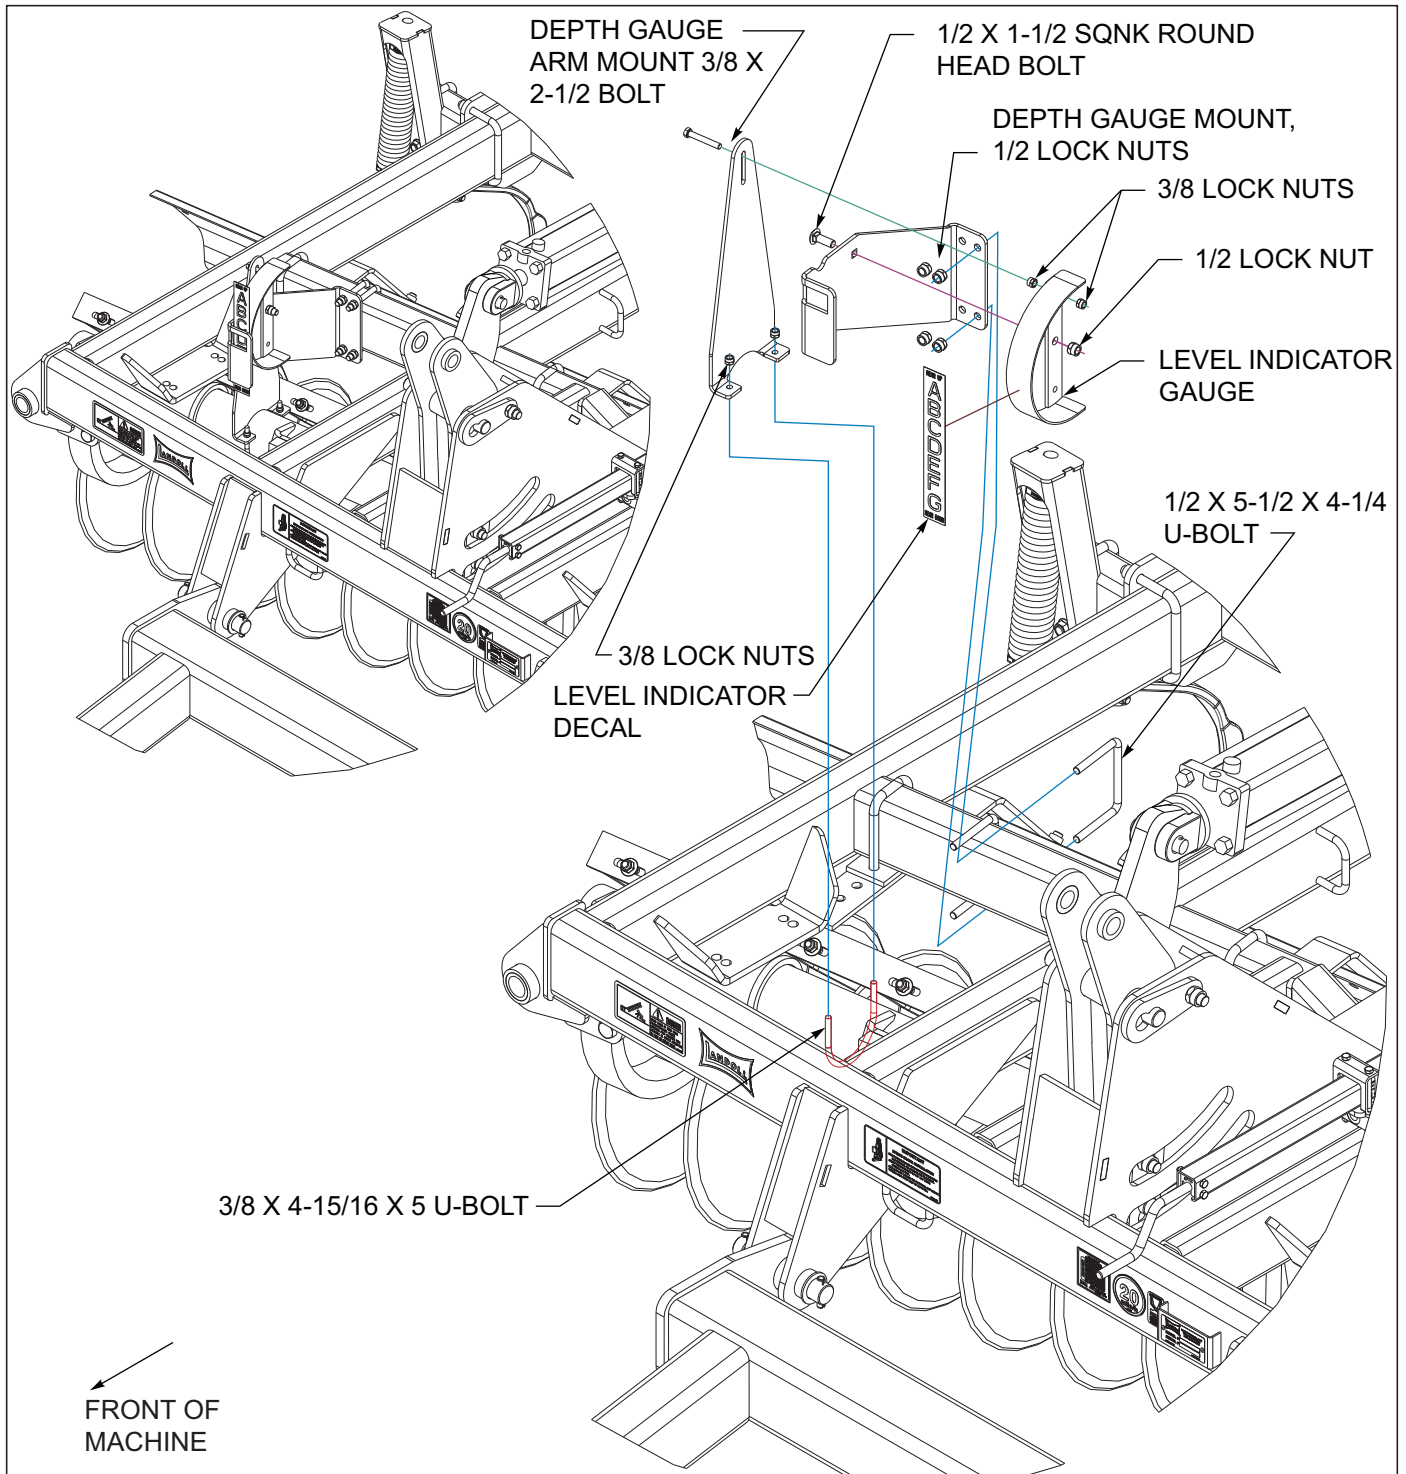
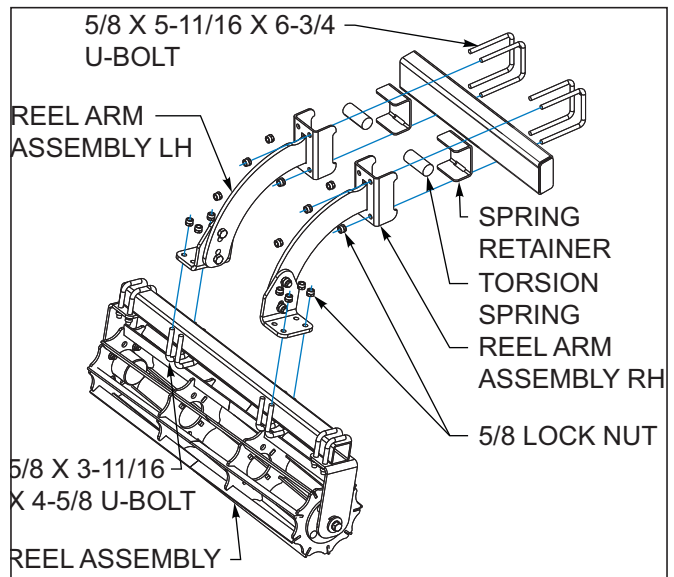
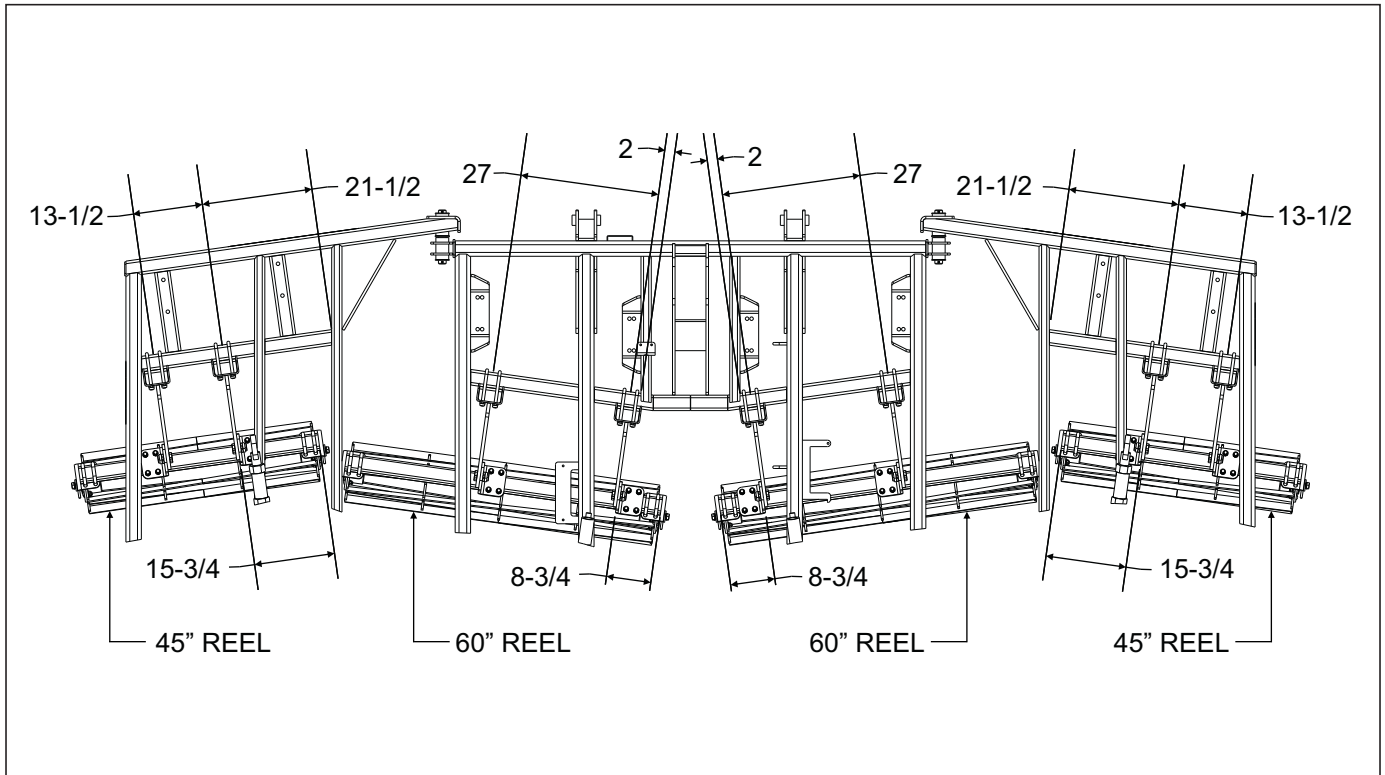

Figure 3-16: Depth Gauge Assembly
Figure 3-18: Disc Gang Reel Arm Assembly
Figure 3-19: Disc Gang Reel Installation - 19'
5. **See Figures 3-19** through **2-13** for placement. **See Figure 3-16** for assembly.
6. Attach the depth gauge mount to center frame with 1/2 x 5-1/2 x 4-1/4 u-bolts and 1/2 lock nuts **See Figures 3-16**. Attach the depth gauge arm mount to disc gang lift using 3/8 x 4-15/16 x 5 u-bolt and 3/8 lock nuts. Attach the level indicator gauge to depth gauge mount with 1/2 x 1-1/2 sqnk round head bolt and 1/2 lock nut, do not over-tighten as the level indicator gauge must pivot freely. Install the 3/8 x
8. Optional Disc Gang Reel Arm Assembly – **See Figure 3-18** Refer to the Disc Gang Reel Layout drawings for proper placement **See Figures 3-19 through 3-25**. Attach 203072, reel arm assembly RH or 203073 reel arm assembly LH to frame. Position torsion spring in upper corner slot of spring retainer, secure with 181363, 5/8 x 5-11/16 x 6-3/4 u-bolts and 5/8 lock nuts. Attach reel assembly to 203072 reel arm assembly RH and 203073, reel arm assembly LH. Secure with 5/8 x 3-11/16 x 4-5/8 u-bolts and 5/8 lock nuts. When all components are in positions shown **See Figures 3-19 through 3-25**, all bolts may be tightened to specs.